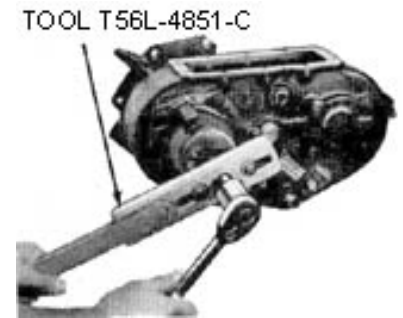

Figure 6 – Removing Flange
7. Remove the flange from the front and rear output shafts (Fig. 6). Discard the front flange O-ring.